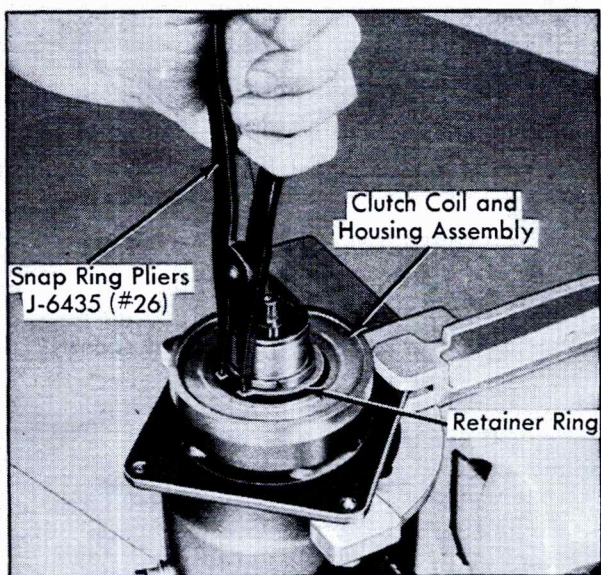

Fig. 1-48 Removing Coil Housing Retainer Ring
4. Remove coil housing retaining ring using Snap Ring Pliers, J-6435 (#26), Fig. 1-48.